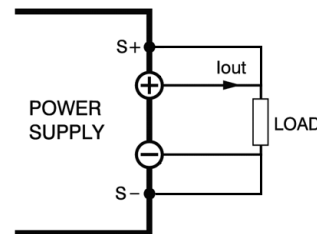

Figure 6.4: Remote sensing
- By default, internal sense is enabled, see Figure 6.4. External sense can be enabled via the web server. Note that the transient response is lower with external sense. If the voltage drop over the load cables is too high, an internal error will be raised. Thicker load cables or a lower current setting will prevent this.